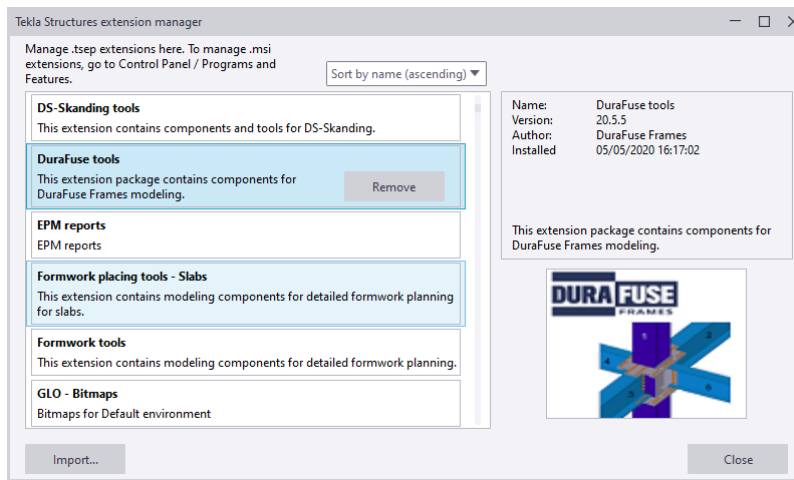

Figure 3-5. Extensions Manager Displaying DuraFuse Tools
- Once the import is complete, the DuraFuse tools will be included in the list (see Figure 3-5).